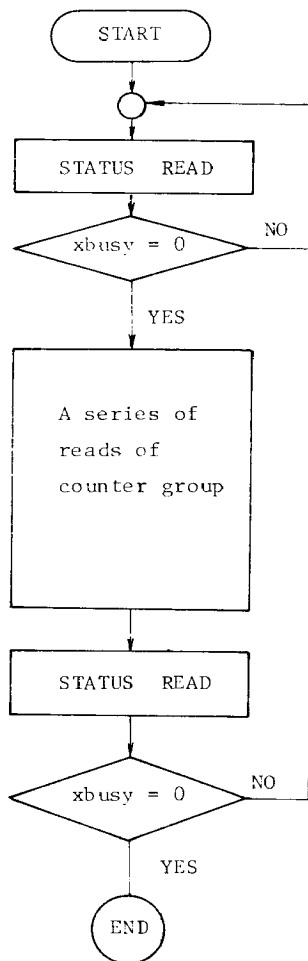

Fig. 5.4 Program Flow (2)
- (2) When a series of counter reads requires more than 91 usec. the "xbusy" flag is used. This is such an occasion, for instance, where time data such as year, month, day, day of week, hour, min., sec., are all taken in. At this time, if clock count pulses are inserted during read, data before and after the pulse insertion may become wrong. The way of checking "xbusy" flag to detection the clock count pulse is effective. As the clock count is occurred once per second, even if the first trial is not good, next trial is surely successful. (Note = It is assumed that a time for a series of reads is sufficiently shorter than one second.) The program flow at this time is shown in Fig. 5.4.